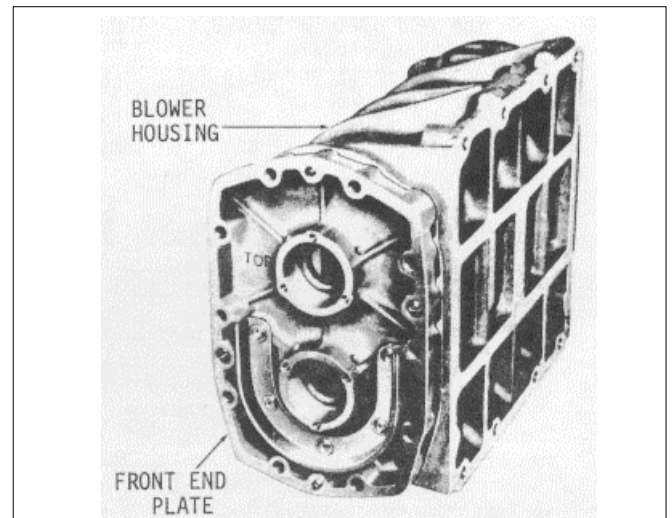

Fig. 13
(1) Install the blower front end plate, making sure the mark TOP on the outer ribbed side is at the top of the blower housing, identified by the flange which supports the housing on the top edge of the cylinder block (Fig. 13).